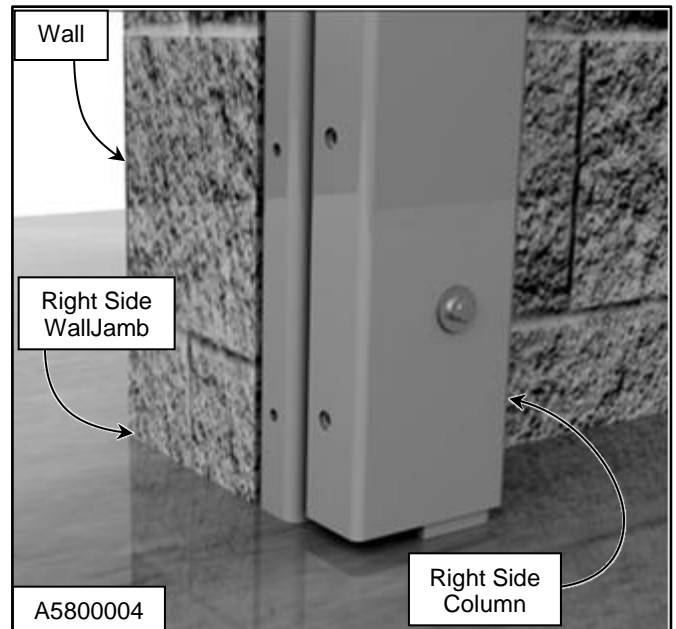

Figure 11
3. Once the side column is set plumb and square, bar clamp it to the wall. (See Figure 11)